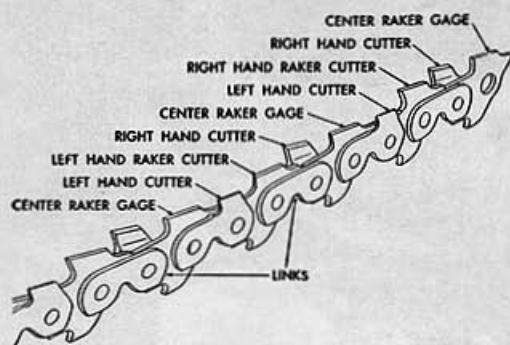

Fig. 21
**Cutter-Raker Chain Saw Teeth.** The arrangement of the teeth on these saws varies considerably, but they all have a combination of cutter teeth and raker teeth. The cutter teeth are on the outside, and the uppermost part is a sharp point (Fig. 21) They are already set. There are three types of rakers in the chain depicted here—a left, center and